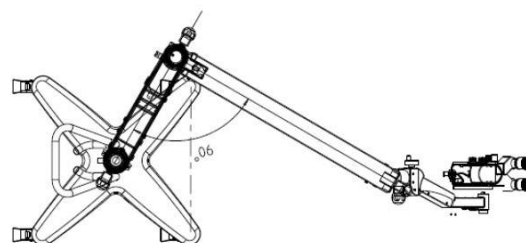

Figure 2: Top view of Leica M525 F20 Microscope
Leica Microsystems identified an area of improvement in the instructions for use and markings as root cause for the reported issues. The existing instructions for use and markings on the device need to be elaborated in an enhanced manner to ensure all users will position and handle the Leica M525 F20 as intended with an angle of approximately 90° between horizontal arm and swing arm (see Figure 2). When the Leica M525 F20 is positioned with an angle of approximately 90° between horizontal arm and swing arm it is unlikely that the instrument is inadvertently tipped over by a person handling the instrument.
- Ensure that your Leica M525 F20 is positioned and handled with an angle of approximately 90° between horizontal arm and swing arm during surgery as well as during set-up and preparation (see Figure 2 and Attachment 1).